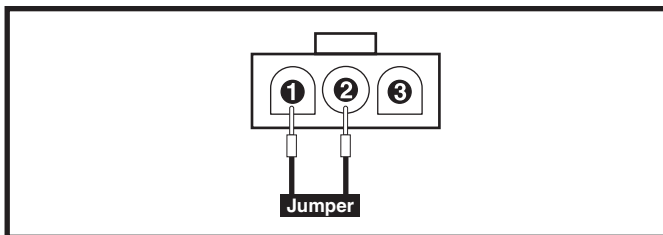

Figure 11. Connector 3b
9. Place a jumper across pin 1 and pin 2 on connector 3b. **See figure 11.**